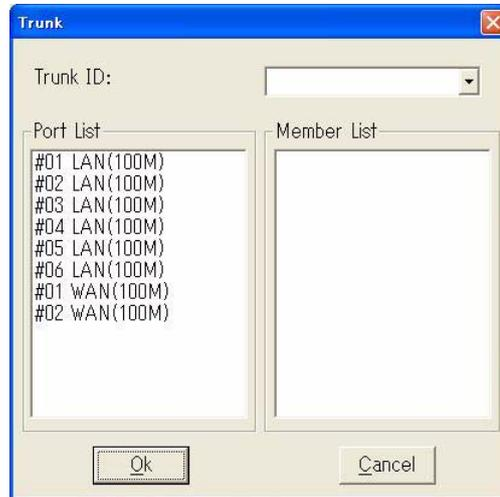

Fig. 4-4-65 Adding Trunk Window
- 2 Select FE card in left subwindow, and then click **Add** button, *Fig. 4-4-65* appears: